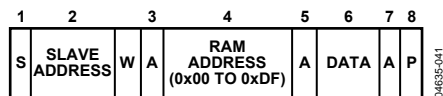

Figure 35. Single Byte Write to the RAM
- To write a single byte of data to the RAM. In this case, the command byte is RAM Address 0x00 to RAM Address 0xDF, and the only data byte is the actual data, as shown in Figure 35.